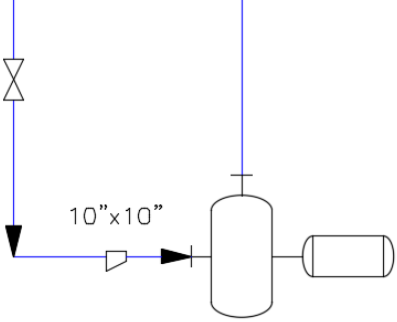

Figure 2-72 A gate valve placed on the line connecting the first pump
- Place a gate valve on the same line, refer to Figure 2-72.